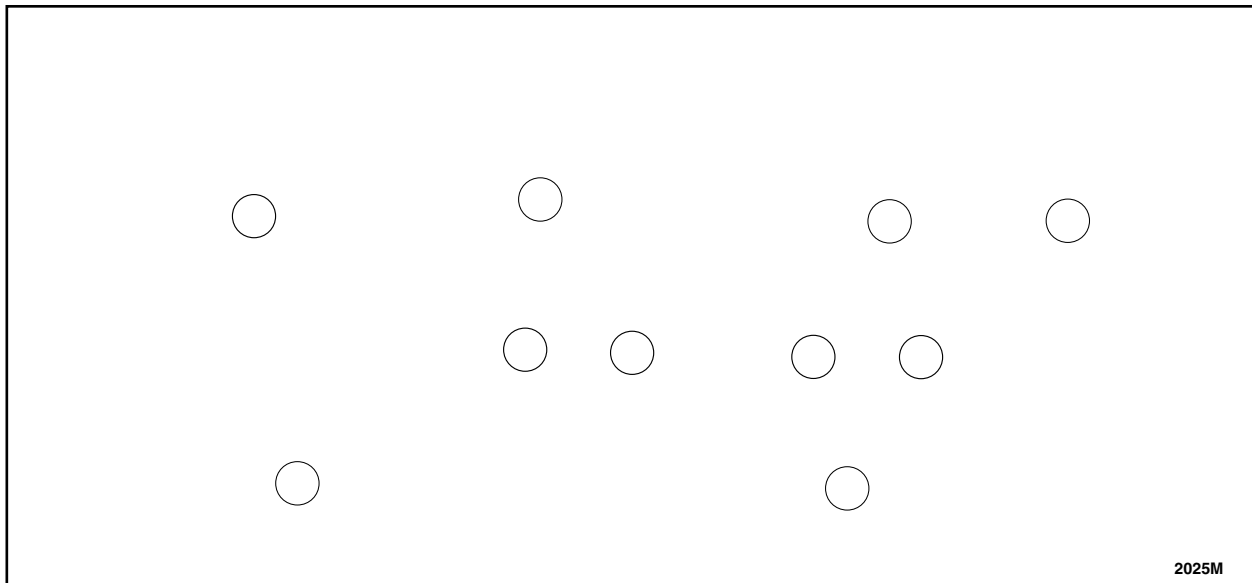

FIGURE 13
18. Position back the fuel injector supply tubes between the fuel rail and the fuel injectors. Fully hand-start and seat the fuel injector supply tube fittings onto the fuel rail and the fuel injectors. Tighten the fuel rail and the fuel rail supply tube fittings in the stages and in the sequence shown below. See Figure 13.